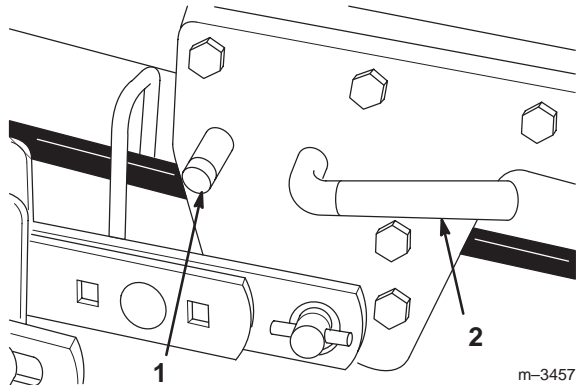

Figure 25
12. Press the button of the mid Attach-A-Matic™ and twist the lever clockwise to release the mower (Fig. 25).